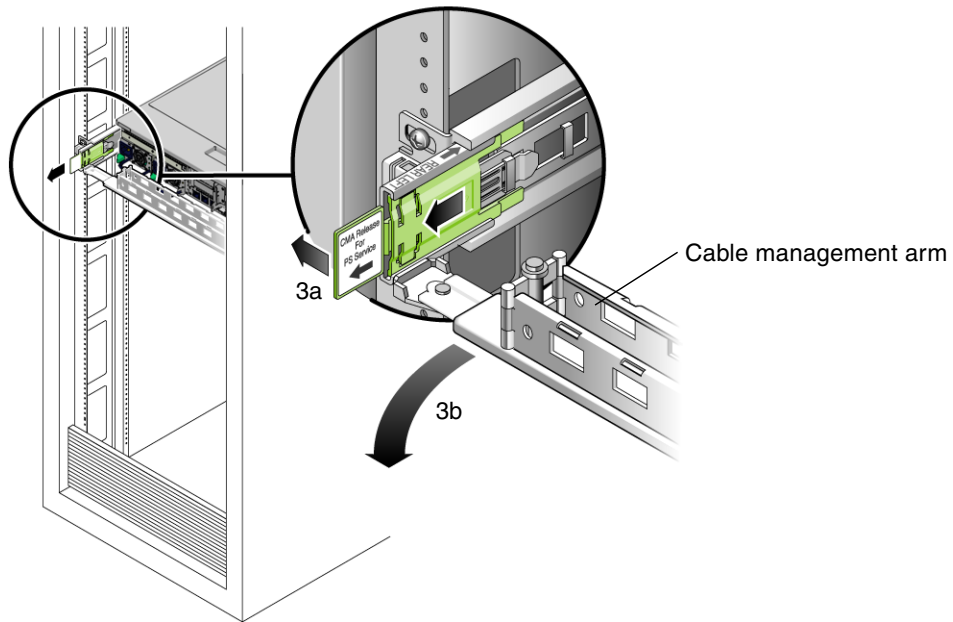

FIGURE 2-7 Rotating the Cable Management Arm to Access the Server Power Supplies
3. **Release the cable management arm (CMA) (FIGURE 2-7).**
4. Close the CMA, inserting the end of the CMA into the rear left rail bracket (FIGURE 2-7).